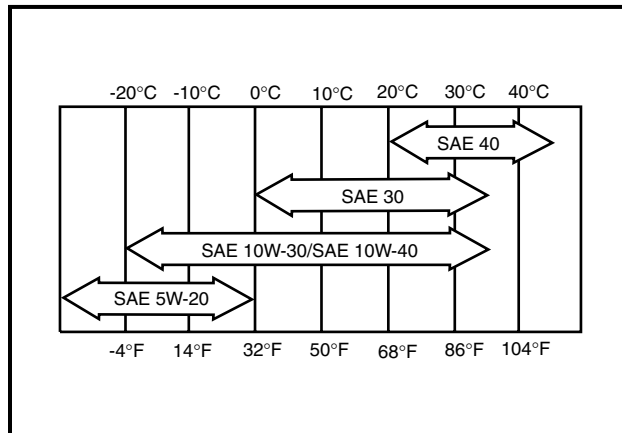

Figure 26 Oil Viscosity Chart
15. Remove the dipstick and add engine oil into the dipstick port. Use a funnel or pour spout to direct the oil into the dipstick port (**Figure 25**). With filter change, the engine requires 38 ounces (1.12 liters) of oil per change. Refer to oil viscosity guidelines for selection of oil grade (**Figure 26**). Replace the dipstick.
Choose the viscosity according to the temperature as shown in the oil viscosity chart (Figure 26).